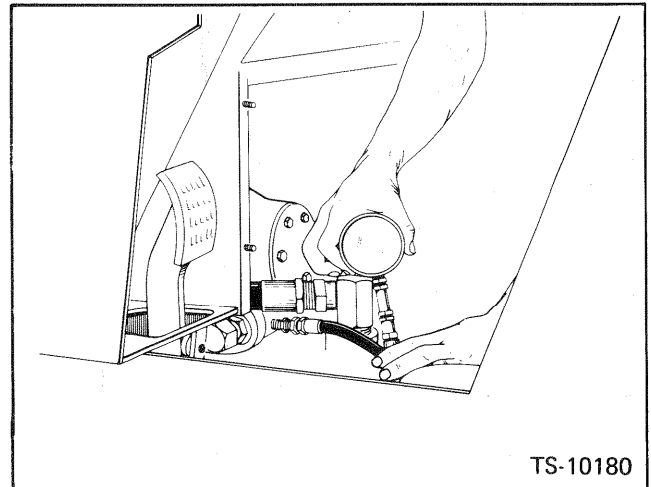

Fig. 8-1 Check Converter OUT Pressure
2. Install a gauge at the converter OUT pressure port located below the sender unit on the rear of the converter. Fig. 8-1.
NOTE: For checking the oil cooler IN pressure refer to the procedure for checking the converter OUT pressure, as these two pressure readings are the same. See Fig. 8-1 for the position of the check point.